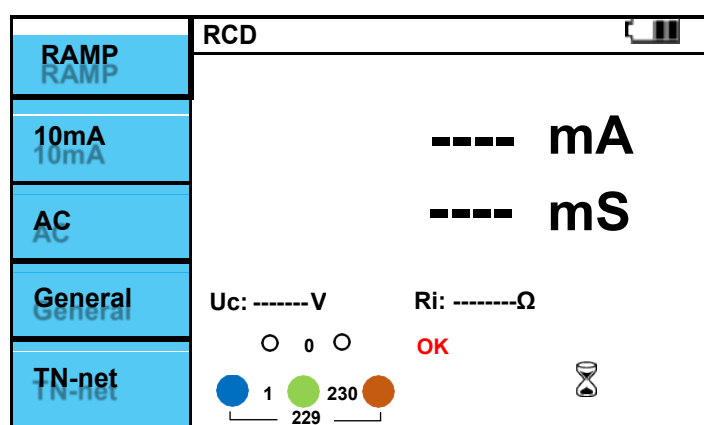

Figure 6.6.2 RCD / Ramp screen.
- IV. If there is no problem with the test lead connection, "OK" is displayed as shown in Figure 6.6.2.